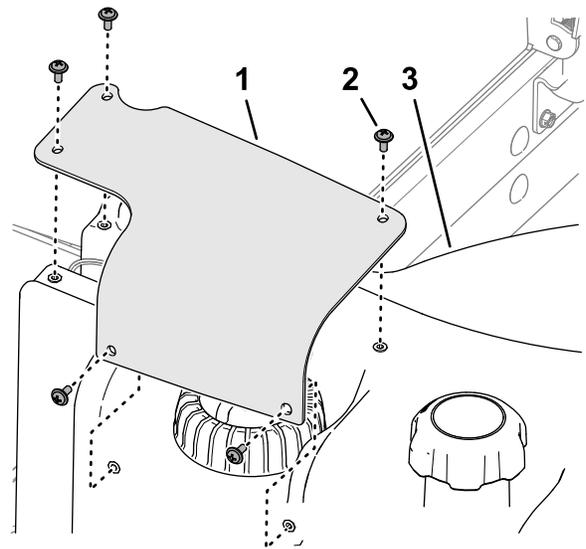

Figure 88
2. Remove the 5 Phillips-head screws that secure the fuel-sender cover to the fuel tank, and remove the cover (Figure 88).